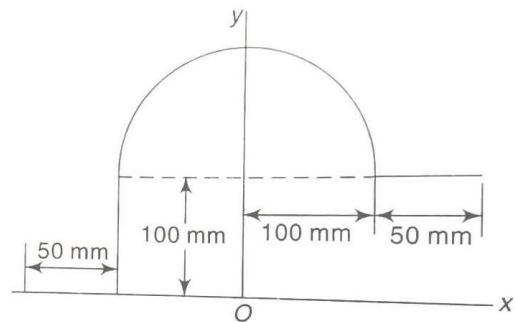

Figure 3.7
- Referring to the Figure 3.7, locate the centroid of length of the mean centre line of the stirrup with the dimensions shown